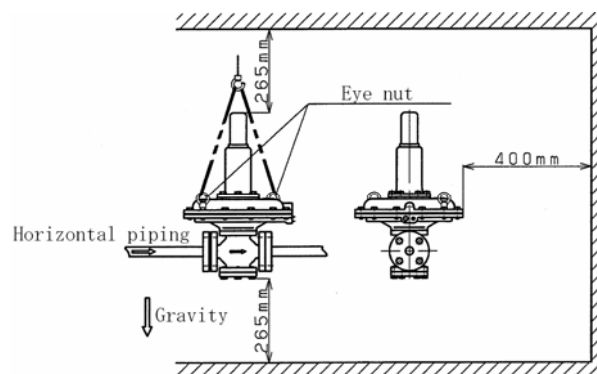

Fig.2
- (7) The pressure reducing valve must be normal to the horizontal pipe, with the adjusting spring side facing up. (Refer to Fig. 2.)
If the space is smaller than these values, the valve cannot be disassembled for maintenance. (Refer to Fig. 2)